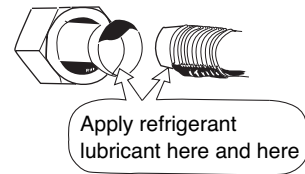

Fig. 9-4
- (1) Apply a sealing cap or water-proof tape to prevent dust or water from entering the tubes before they are used.
- (2) Be sure to apply refrigerant lubricant to the matching surfaces of the flare and union before connecting them together. This is effective for reducing gas leaks. (Fig. 9-4)